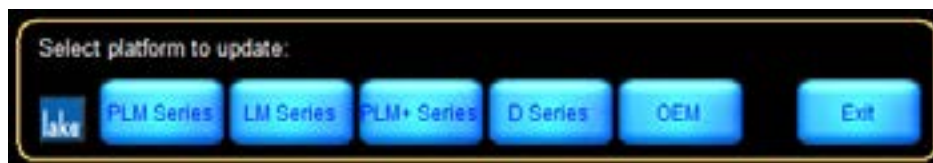

Figure 26-1: Device Platform Selection Dialog
4. Select the platform to update from the dialog that is displayed as shown in Figure 26-1.